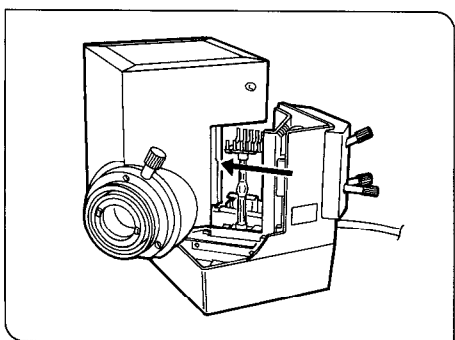

Fig. 8
3. Reattach the socket to the lamp housing by reversing the procedure outlined in 4-1) above. (Fig. 8)